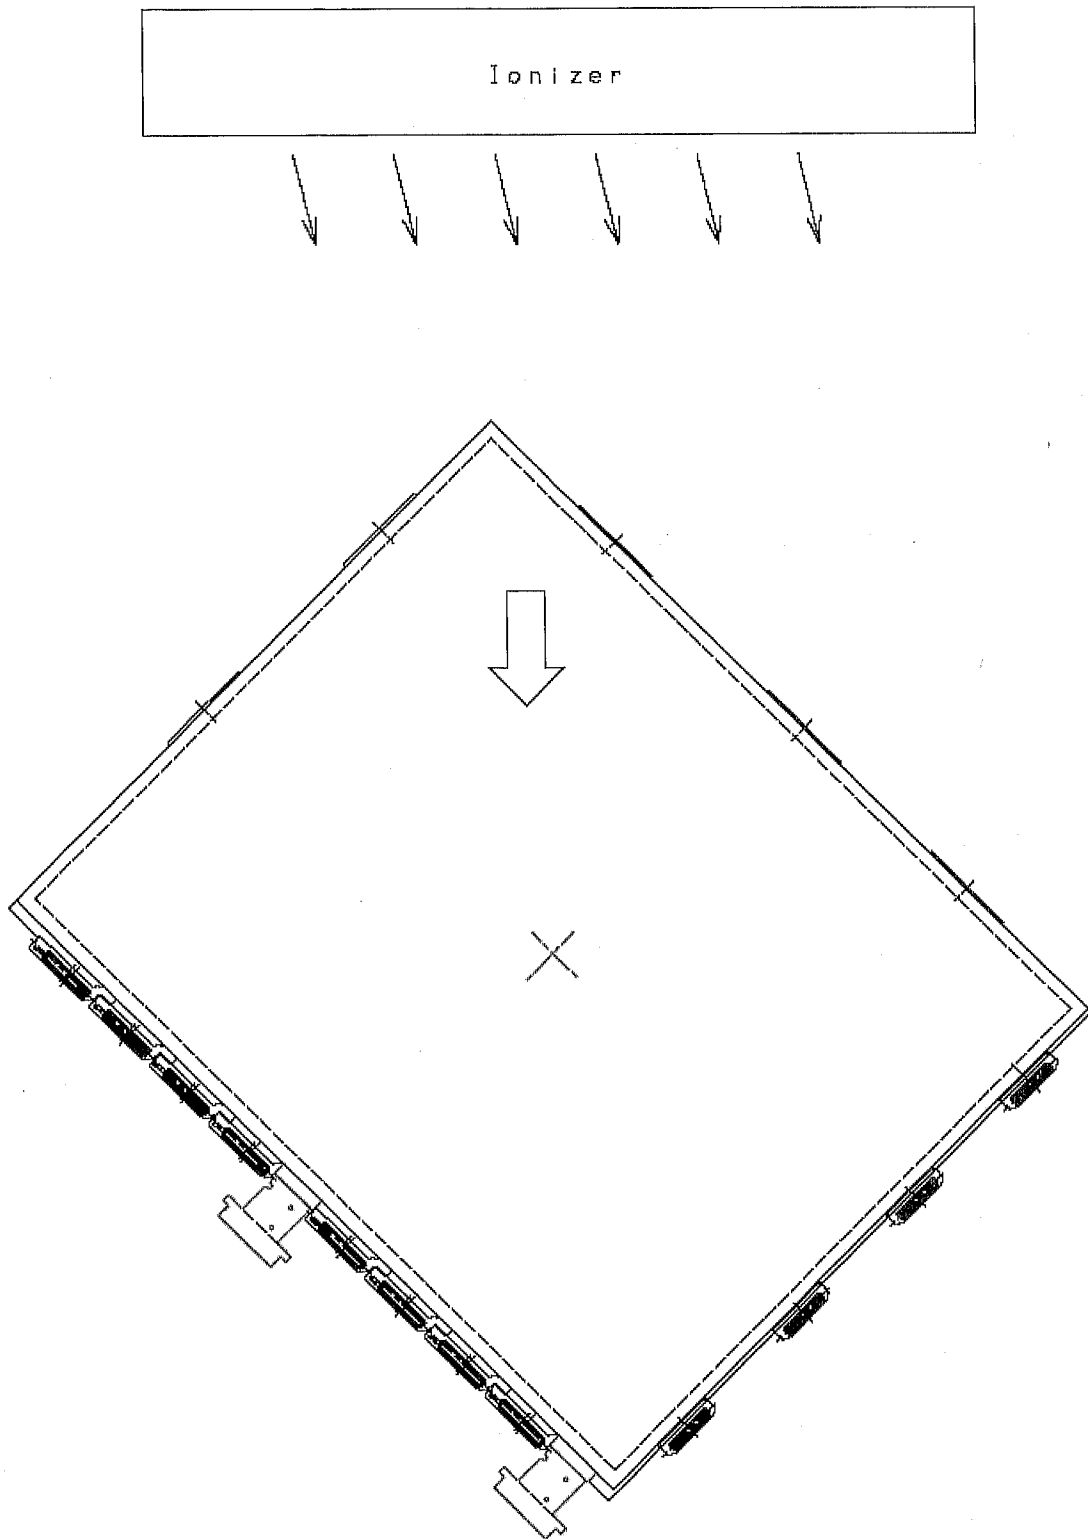
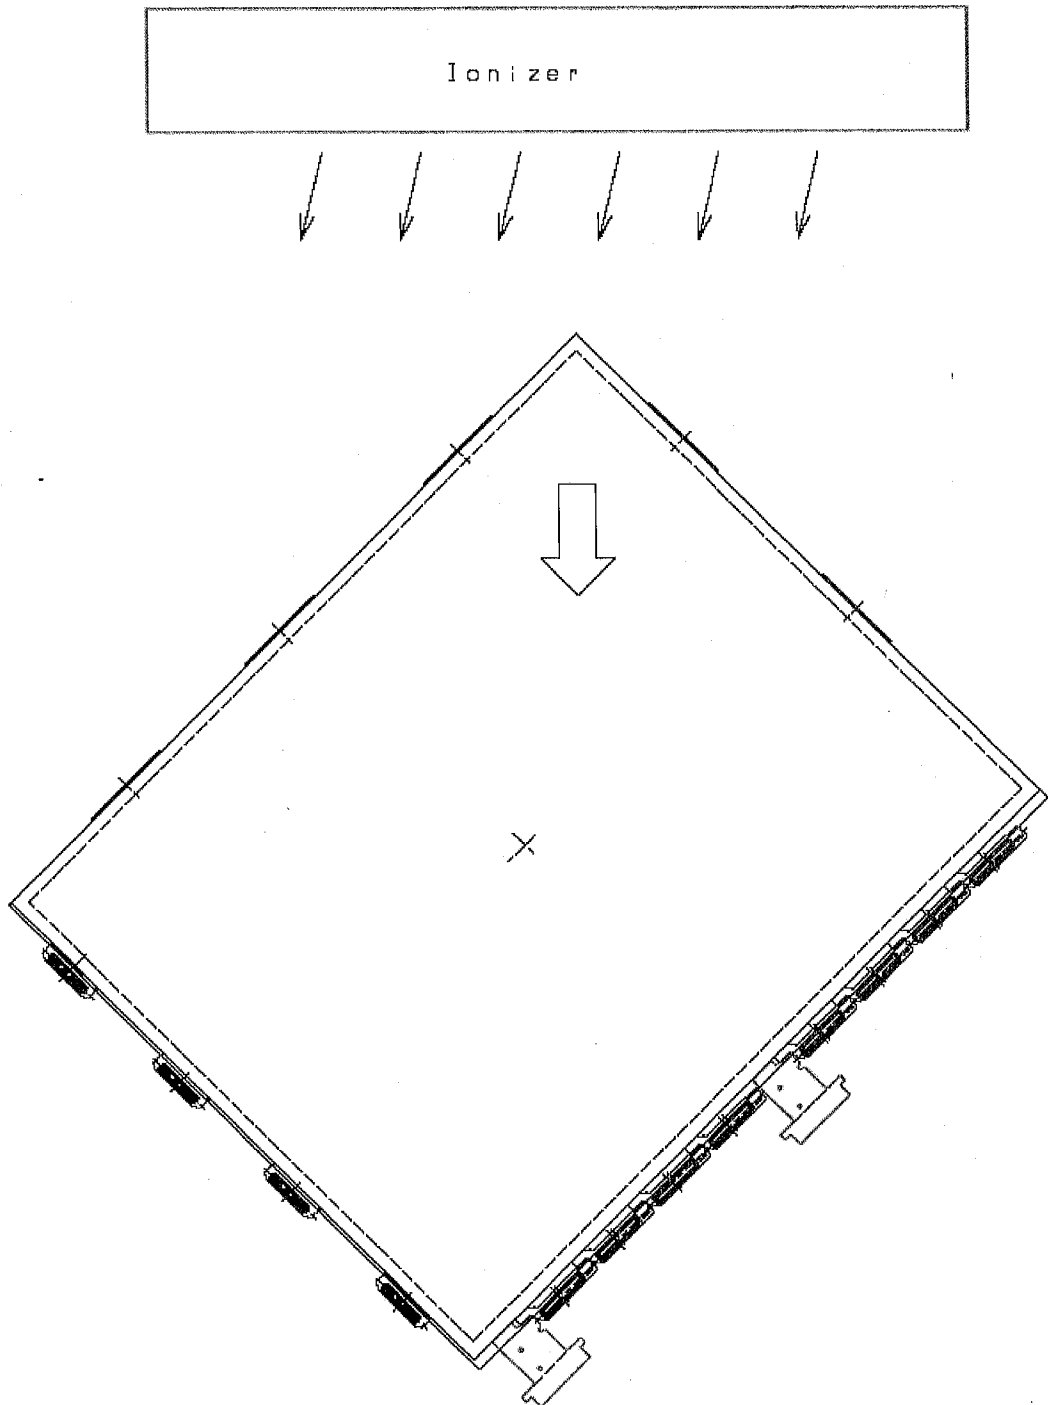

Fig. 10-1
Fig. 10-2
- h) Since static electricity may occur when peel off a protection sheet from the panel, please follow an order described in Fig10-1, Fig10-2.